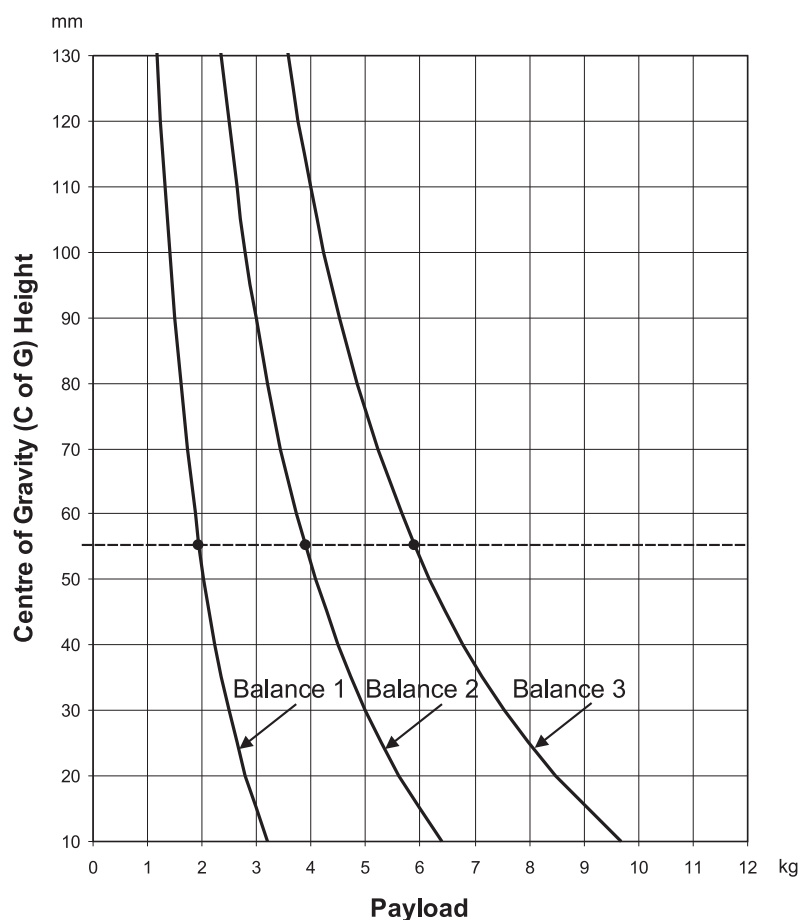

Fig 2.2 Balance graph
3 The selectable balance range in the Pro-6^{HDV} pan and tilt head is set for payloads of 2.5 kg (5.5 lb) to 6 kg (13.2 lb) at a centre of gravity (C of G) height of 5.5 cm (2.2 in.). The graph (Fig 2.2) shows the relationship between C of G height and payload for optimum performance.
16 The Pro-6^{HDV} head provides a selectable balance range, set for payloads of 2.5kg (5.5lb) to 6kg (13.2lb) at a centre of gravity (C of G) height of 5.5cm (2.2in.). The graph (Fig 2.2) shows the relationship between C of G height and payload for optimum performance.
17 The balance selector (8) allows four balance levels to be utilized. Level '0' offers free rotation of the tilt axis with no counter-balance engagement. Levels '1' to '3' offer gradually increasing balance capacity (Fig 2.2).